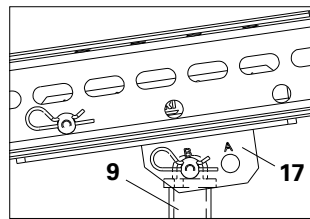

Fig. A2.10a
- Any desired inclination and frame size is possible by plugging holes "A or B" for the Push Prop Head and holes 1, 2, 3 or 4 in the main beam for Connector MP/SRU. (Fig. A2.10a + A2.10b)